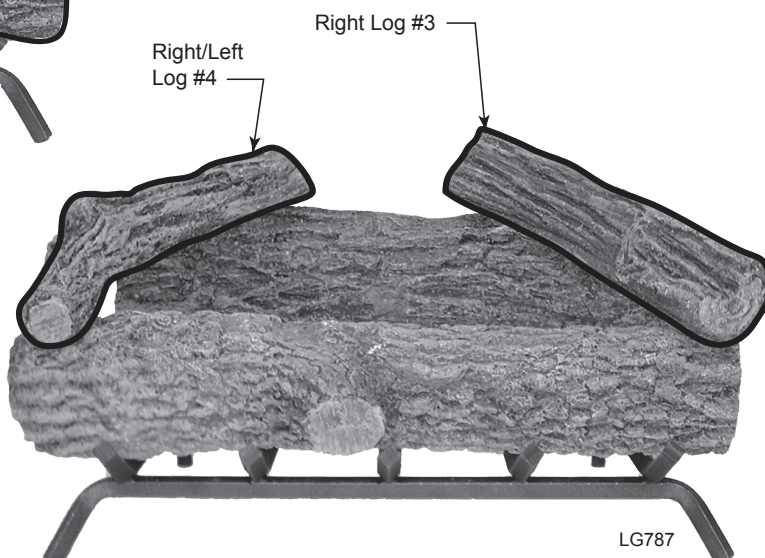

Figure 18 -
3. Place Right Log #3 on top right of Log #1 and Log #2. *Figure 18*
4. Place Right/Left Log #4 on top left of Log #1 and Log #2. *Figure 18*